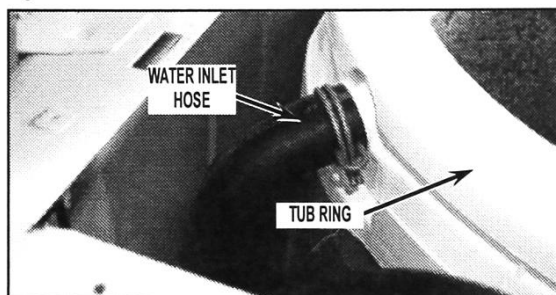

FIGURE 5
8. Disconnect water inlet hose from the tub ring as shown in Figure 5.